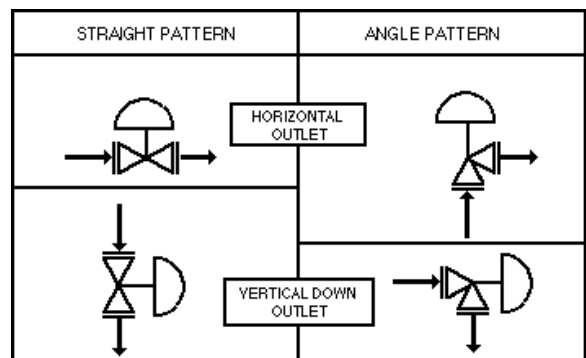

Figure 3: Installation Orientation
1. Standard orientation is with the yoke with position indicator plate and valve body outlet port in same plane. If an alternate arrangement is necessary, loosen yoke nut (8) securing yoke (1) to valve bonnet (2) approximately three revolutions. Rotate actuator assembly (AA) to desired position with respect to body assembly (BA). Re-tighten yoke nut (8). **NOTE:** This procedure can be done in-line.
2. Valve body must be installed in a horizontal or vertical plane where the outlet connection flow direction is downwards or horizontal (see Figure 3). Failure to comply will cause the